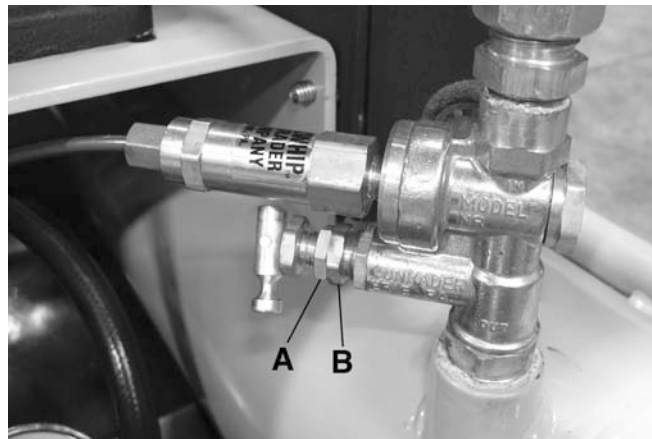

FIGURE 6
This compressor comes with a factory operating pressure setting of 95-125 PSI (cut-in and cut-out), the cut-out pressure setting may be increased up to 150 PSI by making an adjustment to the load master valve assembly Fig.6.
To increase the cut-out pressure setting, using a wrench, loosen the load master valve (A) Fig.6 by turning it counterclockwise. Then turn the load master valve fitting (B) clockwise. Make small adjustments at first and test the new setting until the desired cut-out pressure setting is obtained. Retighten the load master valve.